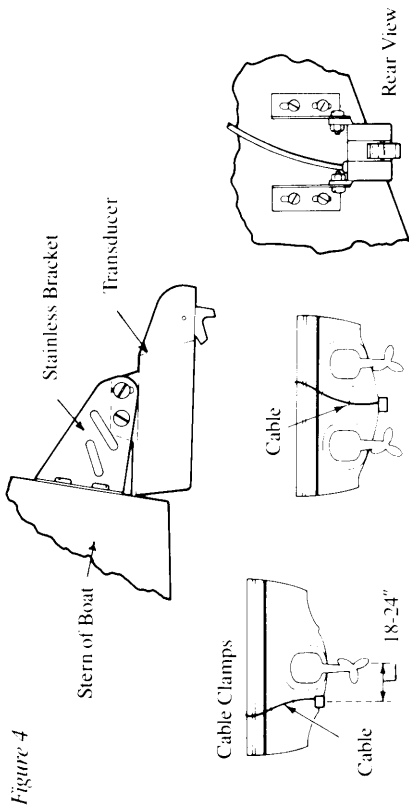

Figure 4
- 1) Assemble the transducer to the bracket as shown in Figure 4. (Note: transducer shown is **Echo 200ST** (speed/temp version).)